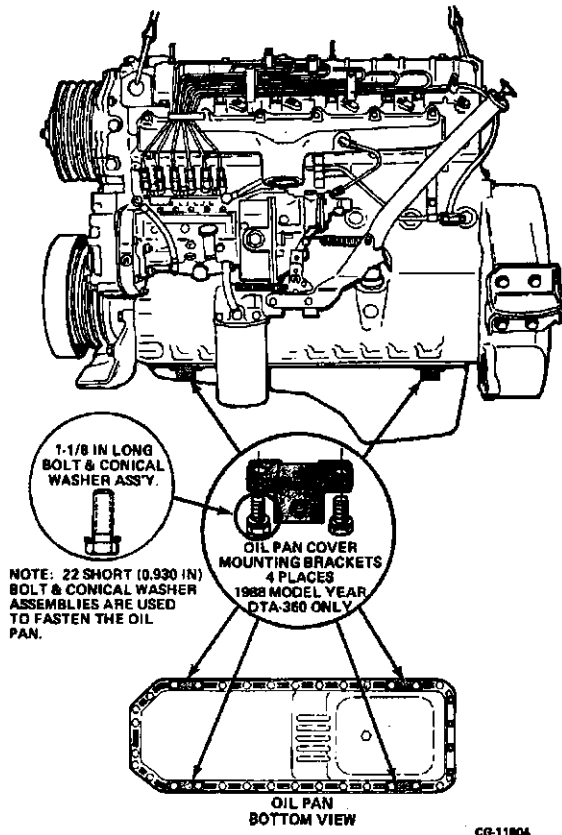

Figure 7.35. Oil Pan Cover Bracket Location
**NOTE:** 1988 model year DTA-360 Diesel Engines were equipped with an oil pan sump acoustic cover to reduce noise levels in accordance with government standards. 1988 DT-360's and 1987 DT/DTA-360's did not require an acoustic cover; consequently, those engines were not built with oil pan cover brackets. The four oil pan cover brackets (two on each side) are fastened to the engine using eight 1-1/8 in. long screw and conical washer assemblies. Do not substitute hardware. Refer to your parts catalog when ordering. Refer to Figure 7.35.